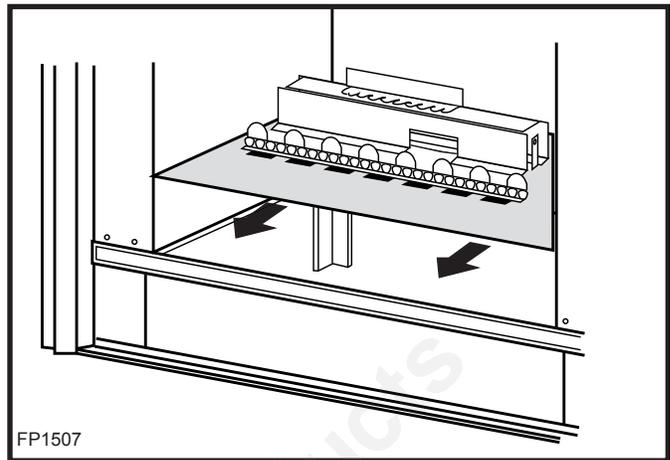

Fig. 29 Remove the old burner assembly.
4. Disconnect the gas supply from the control valve under the fireplace. Remove the two (2) screws located at bottom rear of burner pan. Disconnect the primary spill switch from the gas valve. Leave the primary spill switch in its location, as it must be rewired to complete the new burner assembly installation. Lift the complete burner assembly up and out of unit to clear support ledge. (Fig. 29) Remove the existing fan assembly, if installed.